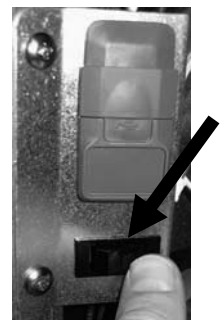

Figure 36
The control power reset switch, is a momentary rocker switch, located in the far left fryer cabinet (see Figure 36), that resets all power to all the controllers and boards in the fryer. It is necessary to reset all power after replacing any controller or board and after any setup change. Press and hold the switch for at least **thirty (30) seconds** when resetting the control power to ensure power has sufficiently drained from boards.